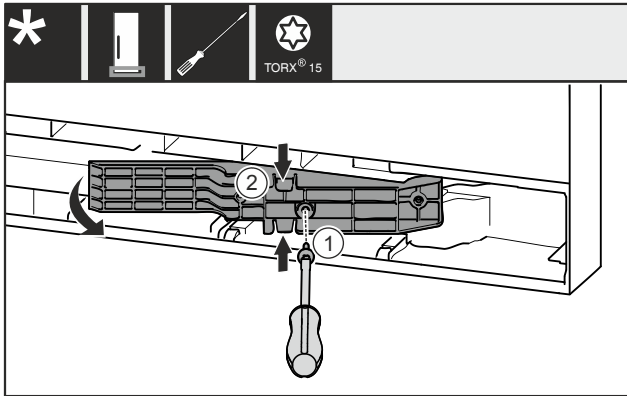

Fig. 12 \*
- ▶ Remove the screw Fig. 12 (1)\*
- ▶ Gently press the adapter piece Fig. 12 (2) together at the top and bottom and pull it out.\*